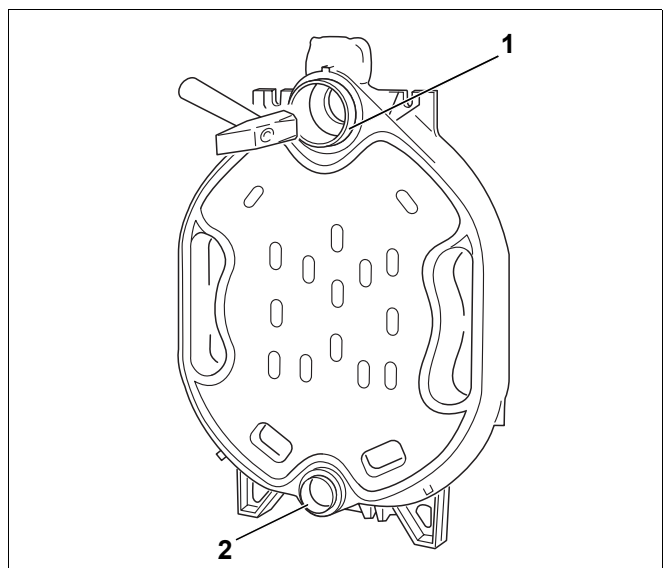

Fig. 9 Hammering the nipples home
- Fit the nipples straight into the upper (size 2, 119/50) and lower (size 0, 57/50) hub of the rear section and hammer home securely with alternate heavy blows. Afterwards, the upper nipple (Fig. 9, **Item 1**) and the lower nipple (Fig. 9, **Item 2**) should protrude approx. 28 mm from the respective hub.